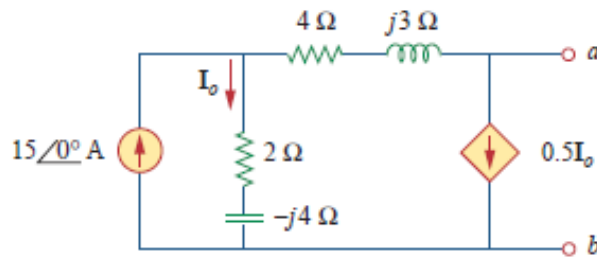

Fig.12
C) Find the Thevenin equivalent of the circuit in Fig. 12 as seen from terminals $a-b$.